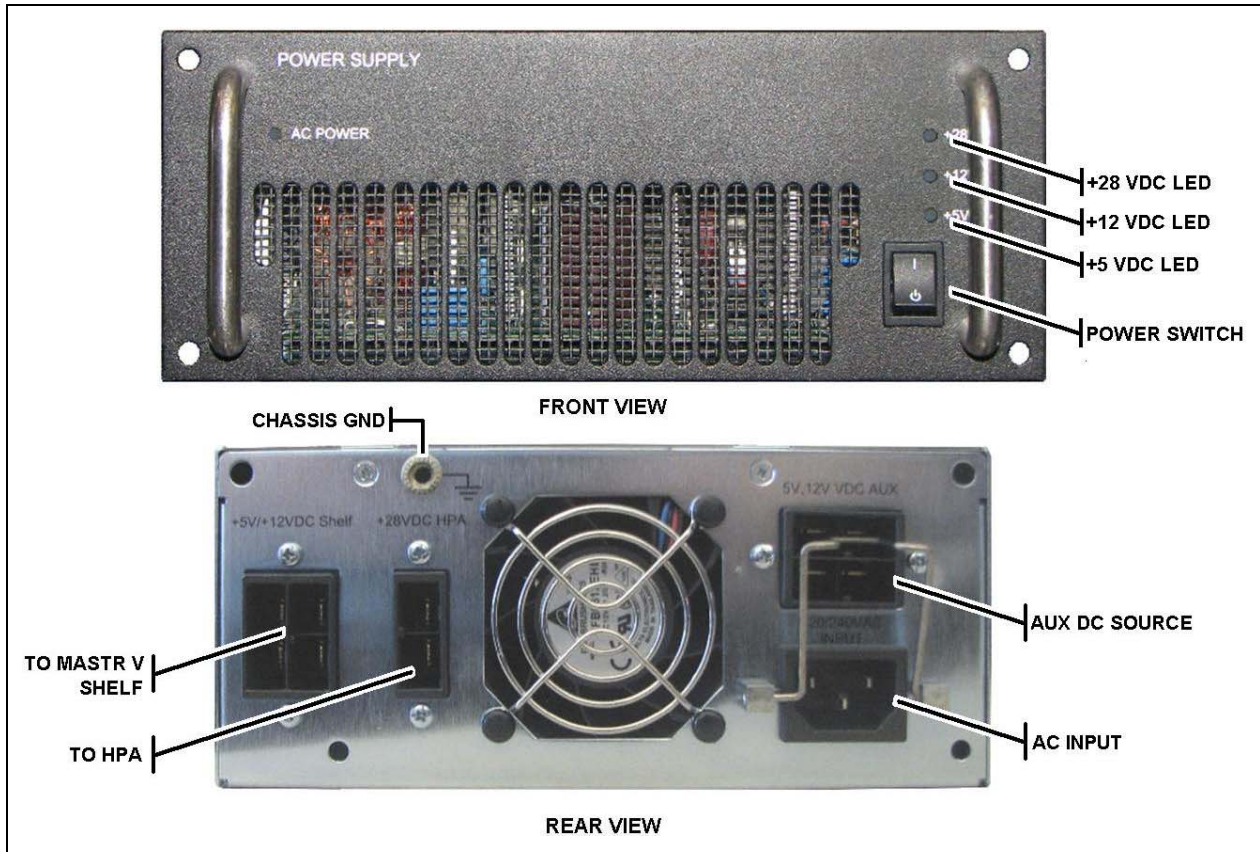

Figure 4-10: Power Supply Module
4.3.6.1 Power Supply Module (PS)
The MASTR V Power Supply (PS) module EA-555011-001 (refer to Figure 4-10) is a continuous duty switching power supply. It operates from an input of 85 VAC to 265 VAC at 47 Hz to 63 Hz (1000 Watts maximum). The PSU provides a maximum of 875 Watts total output power divided among the following three (3) DC outputs: